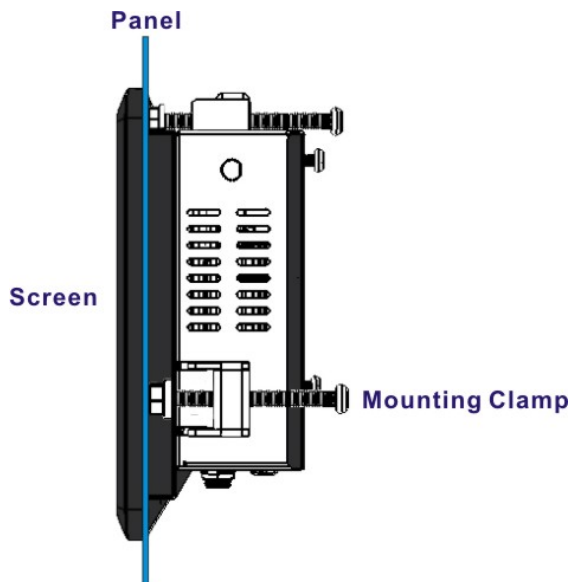

Figure 3-21: Tighten the Mounting Clamp Screws
- Step 4:** Insert the mounting clamps into the mounting brackets and pre-formed holes along the edges of the PPC-F06B-BT, behind the aluminum frame (**Figure 3-21**). There are a total of four mounting clamps required.
- Step 5:** Tighten the screws that pass through the mounting clamps until the plastic caps at the front of all the screws are firmly secured to the panel (**Figure 3-21**).